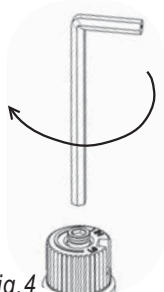

Fig.4
- 14) Using the Allen wrench as shown in Fig.4, rotate the screw clockwise until snug, do not overtighten.